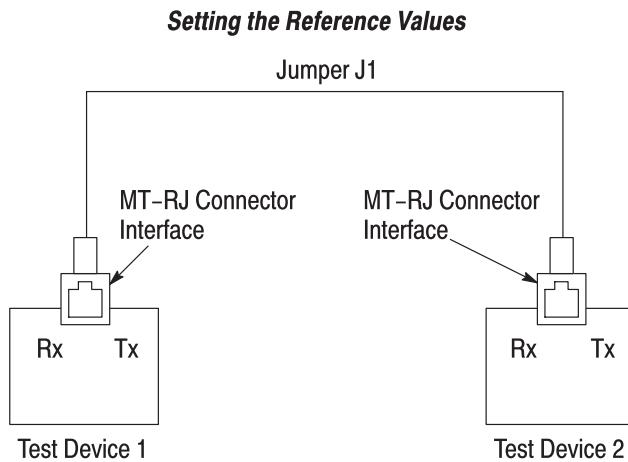

Figure 8
A. Setting the Reference Values (Figure 8)